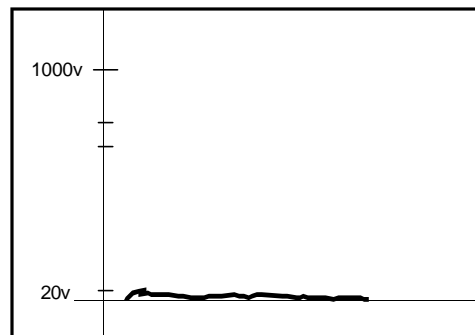

Figure 6. ESD that penetrates a static shield bag.
**Abilities:** Shield bags provide the dissipative and antistatic attributes of the poly bag but add a metal shield and polyester dielectric to stop static from entering the bag. The test for shielding demonstrates the difference between the various bags. Shield bags will generally stop 97% of a 1000 volt static pulse applied to the outside of the bag from reaching the inside. Pink poly will stop only about 10% and black poly about 30%. See figure 6.